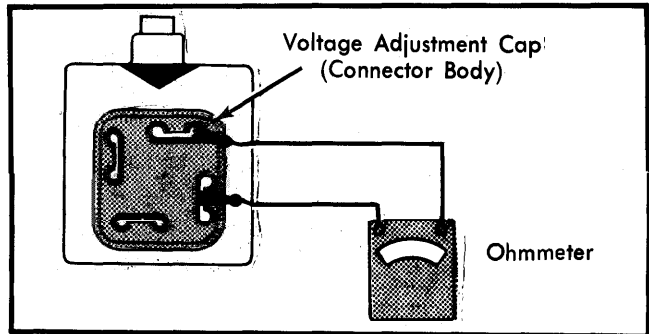

Fig. 17 Bench Testing Voltage Adjustment Cap (100 Amp. Heavy-Duty Alternator)
1) If none of the previous tests shows any defects and an overcharged condition was present, remove voltage adjustment cap (connector body) from slip ring end frame. Using an ohmmeter with middle range scale, attach leads to each pair of adjacent terminals (4 checks in all). See Fig. 17.